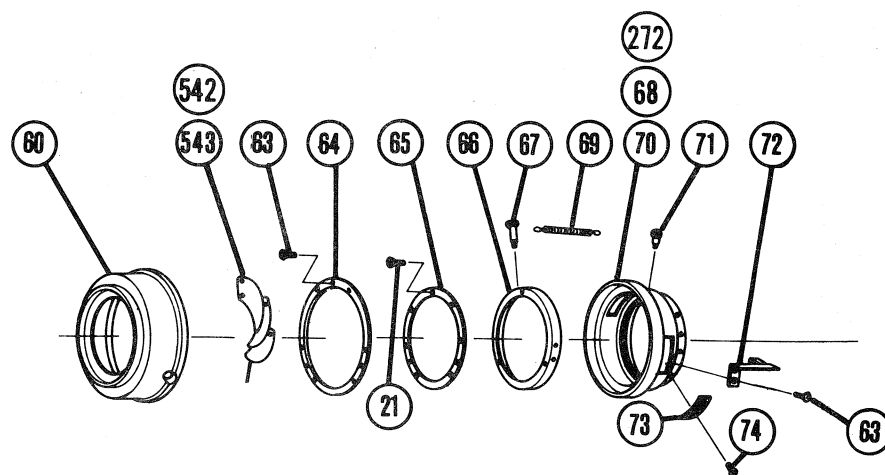

Figure 12-2. Diaphragm Housing Assembly, All Mounts
**Parts List for Figure 12-2. Diaphragm Housing Assembly,